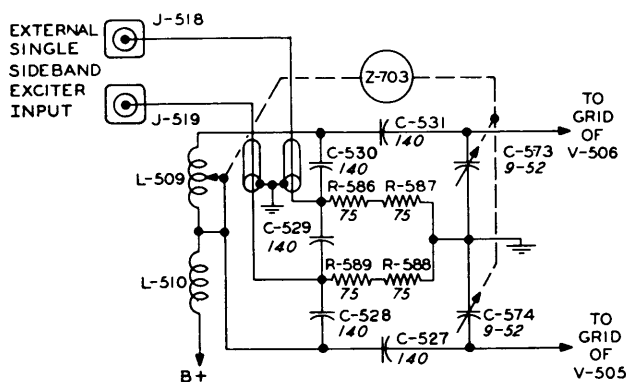

Figure 2-26. Simplified Schematic — RF Unit
1. PA CONVERSION FOR LINEAR AMPLIFICATION. — The circuit that is normally employed at the grids of the power amplifier is designed to present a high impedance load to the type 4-400A driver tube and to deliver balanced push-pull voltage to the relatively low impedance grid circuit of the PA. This is not a suitable circuit for accepting drive from an external exciter such as the Western Electric type D-156000 single side-band suppressed carrier transmitter. Therefore the power amplifier must be modified slightly for such operation. Figure 2-26 is a simplified schematic of the power amplifier input circuit following conversion for linear amplifier operation.